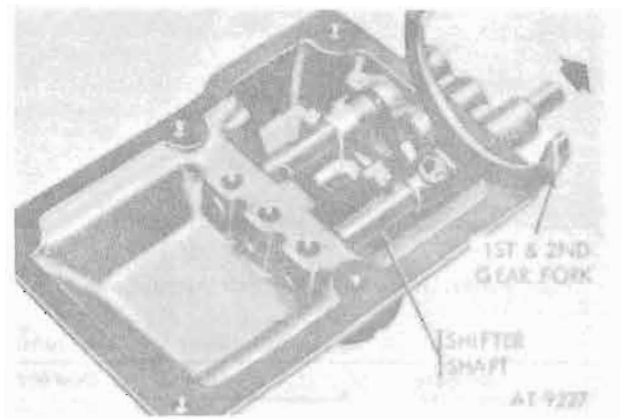

Figure 8-94. First and second speed shifter shaft and fork.
h. Using drift remove first- and second-speed gear-shifter shaft and fork from housing (fig. 8-94).
shaft and fork (fig. 8-94) by depressing detent ball. Refer to *e* above.